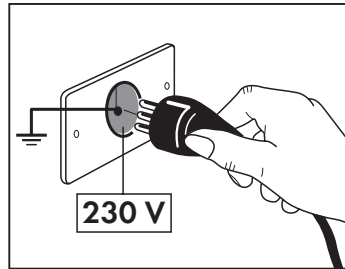

Fig. 1
- Make sure that the electrical installation (230V- 50Hz) is earthed and equipped with differential switch, as required by applicable safety regulations (Fig. 1)